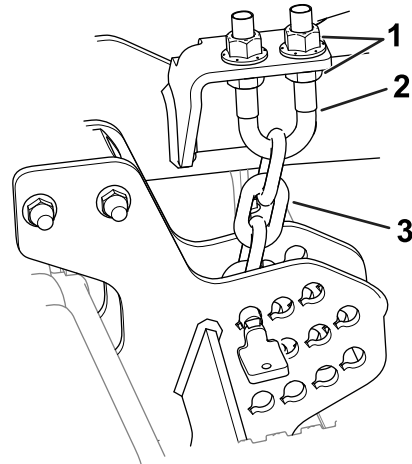

Figure 11
6. Loosen the jam nuts at the top or bottom of the height-of-cut chain U-bolt (Figure 11).